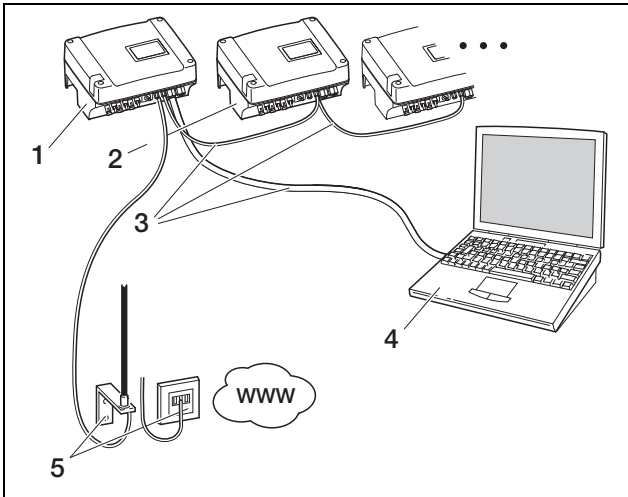

Fig. 55: Network settings with manual network configuration for GSM communication, subnet mask 255.255.255.0 (☐ external router)
- You have a local network (Ethernet) with fixed IP addresses and want to integrate the inverter into the network (figure 55).